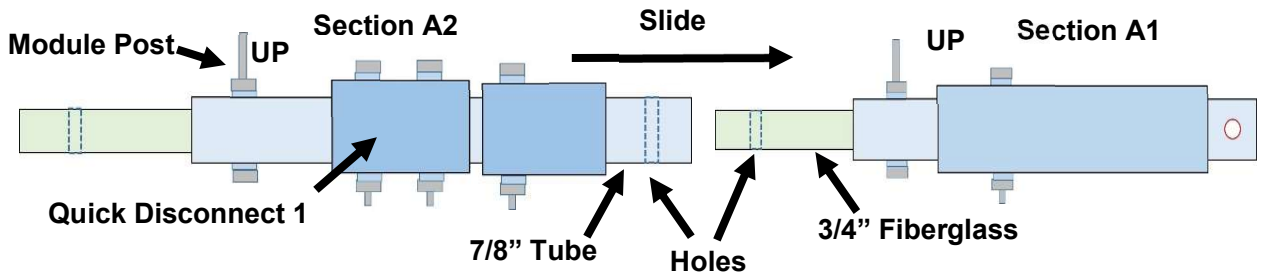

FIGURE 25
- **STEP 6.25** Slide section A2 7/8" tube over 3/4" fiberglass rod of section A1, as shown in **FIGs 25, 26 and 27**. Section A2 will slide smoothly over A1, if properly aligned. A slight angular adjustment may be necessary, for a smooth slide. When sliding A2, slowly rotate A2 to align the 2 holes. The STOP line on the fiberglass rod is where the holes should align, **if properly rotated. After holes are aligned, check that both module end posts for A1/A2 face UP. (FIGs 25 and 28.)**